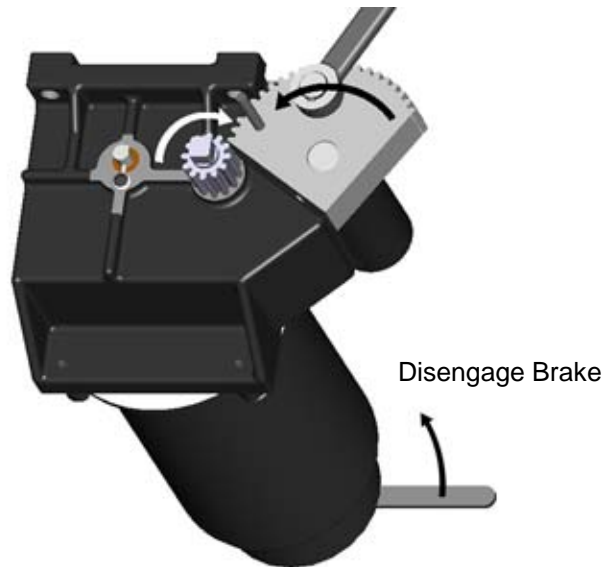
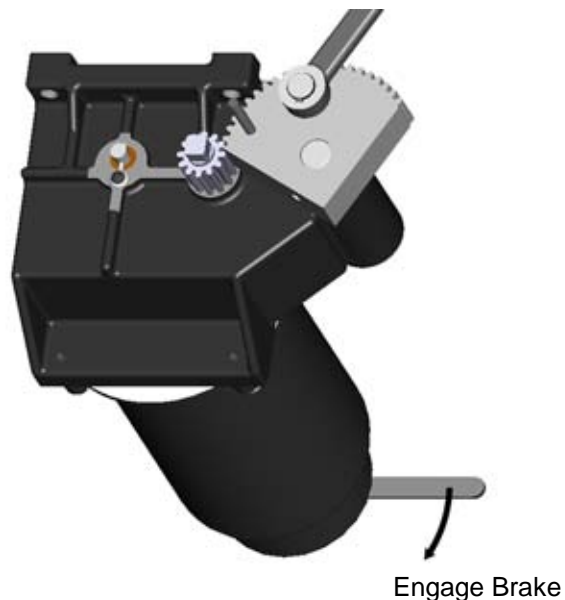

Figure 19
Figure 20
3. Disengage the motor brake by moving the brake lever counterclockwise (when looking at lever from front of machine) as shown in Figure 19.
4. Now move the gears in the directions shown in Figure 19. Some machines are equipped with gears that have a small stub on them which can be used to turn the gear using a pliers or wrench if necessary. If the larger gear cannot be moved by hand, carefully tap on it with a rubber hammer, or carefully pry it with a long bar. Be very careful not to damage the gear teeth. Rotate the gears so that at least one whole tooth is engaged (Figure 20).
5. Engage the motor brake by moving the brake lever clockwise (when looking at lever from front of machine) as shown in Figure 20).